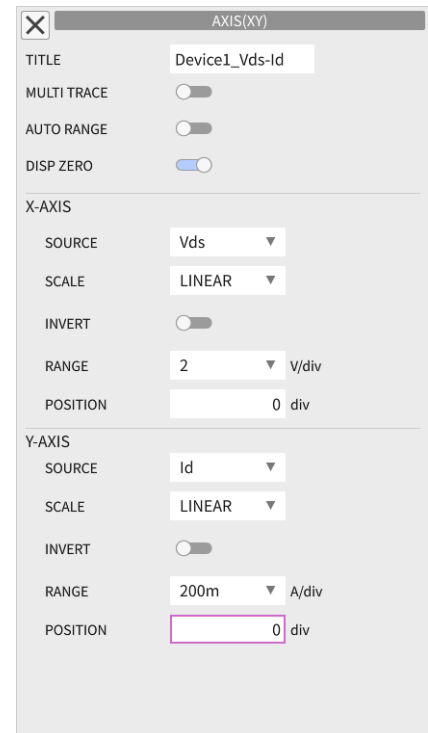

Figure 3.27: AXIS (XY) detailed setting screen
3.4.5 Detailed Settings in the AXIS (XY) Menu
Figure 3.27 shows the AXIS (XY) detailed setting screen.